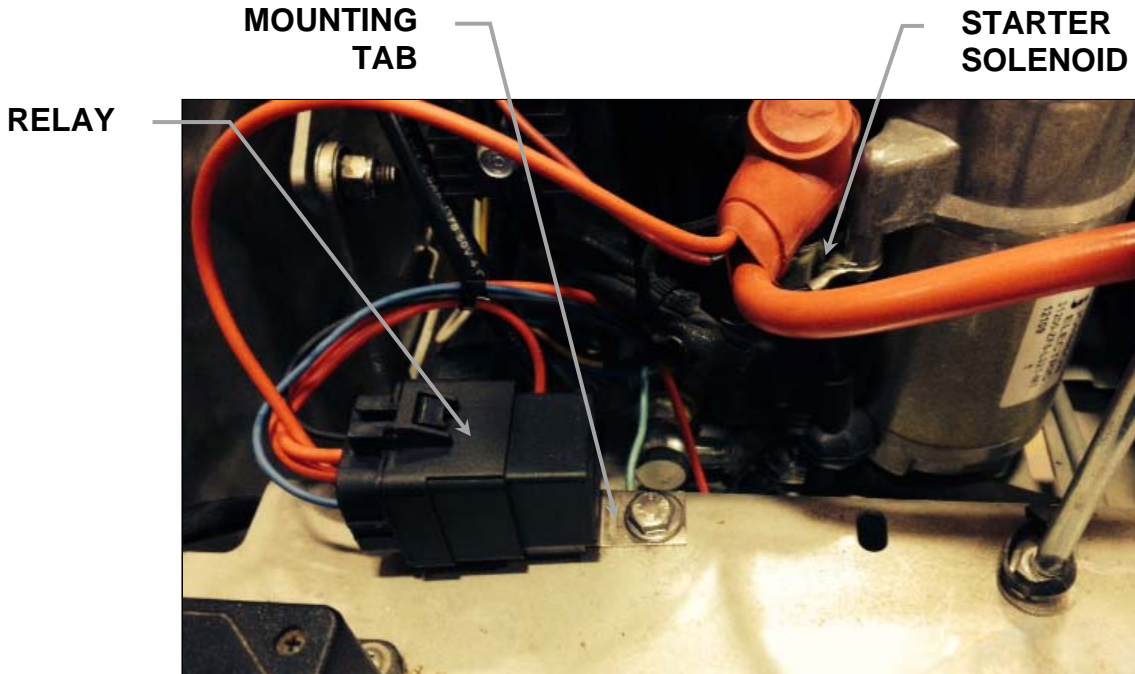
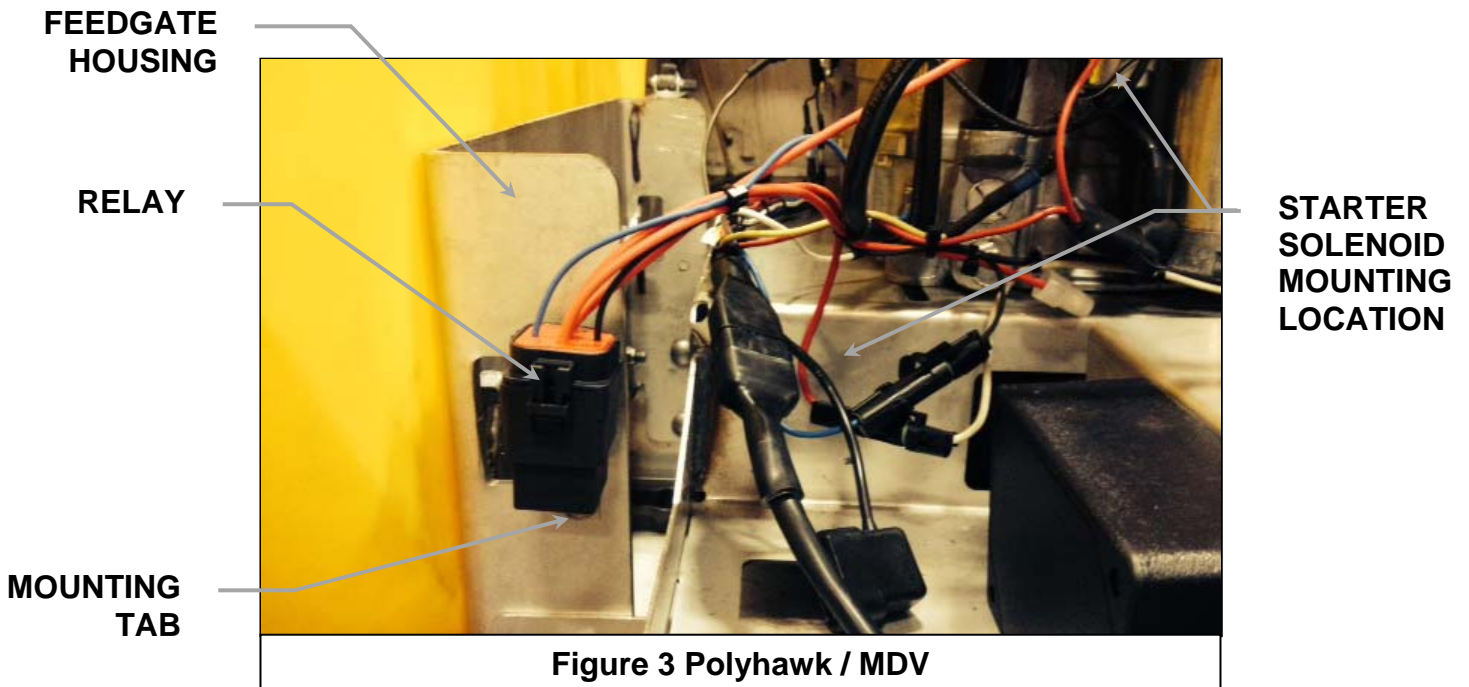

Figure 2 Honda PV
Figure 3 Polyhawk / MDV
- Mounting Relay:** The relay assembly is supplied with a metal tab for mounting. On PV spreaders with Briggs & Stratton engines the relay will be mounted to the front starter solenoid mounting bolt (Figure 1). On PV spreaders with Honda engines (no starter solenoid) the relay will be mounted to the same hole with the supplied 1/4" x 3/4" bolt and locknut (Figure 2). On Polyhawk spreaders the relay will mount vertically to the existing hole in the driver's side of the feed gate housing (Figure 3). For MDV spreaders the relay will mount vertically to the existing starter solenoid mounting hole (Figure 3).
- 2. Clutch Wire Connections:** Disconnect the clutch power wire from the blue wire on the spreader control cable. Connect the black wire from the relay assembly to the blue wire on the spreader control cable. Connect the red wire (*with weatherpack connector*) to the clutch power wire. (See figure 2)